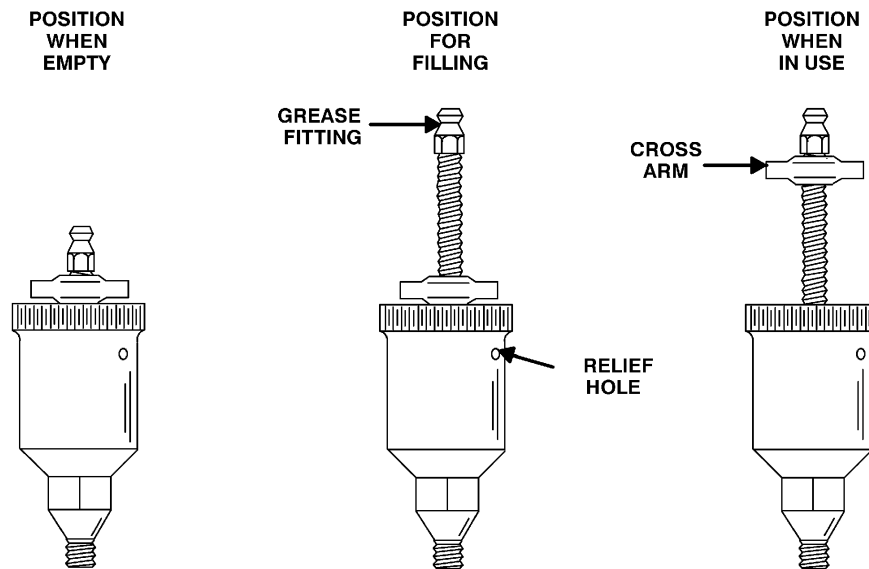

Figure 6. Automatic Lubricating Grease Cup
Fill the grease cup (17) through the grease fitting with No. 2 lithium base grease until grease escapes from the relief hole. Turn the grease cup arm counterclockwise until it is at the top of the stem; this will release the spring to apply grease to the seal (see Figure 6).